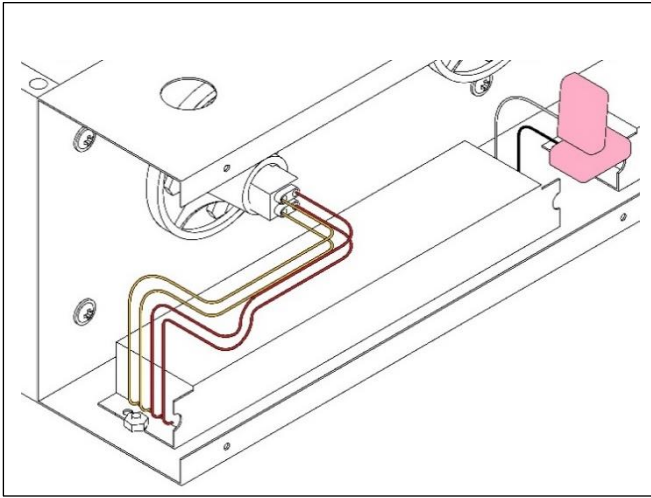

Figure 7
6.) Disconnect lamp plug and power attached to defective ballast. Take note of which terminals power the defective ballast so the new one can be wired correctly. See Figures 7 and 8.
7.) Disconnect wire providing power to the ballast. See Figures 7 and 8.
8.) Use an 11/32" socket wrench to remove the (2) nuts holding the ballast into place. See Figures 7 and 8.
10.) Reinsert and tighten the (2) nuts that hold the ballast in place with an 11/32" socket wrench. See Figures 7 and 8.
11.) Reconnect lamp plugs and reconnect wiring clip powering ballast. See Figures 7 and 8.